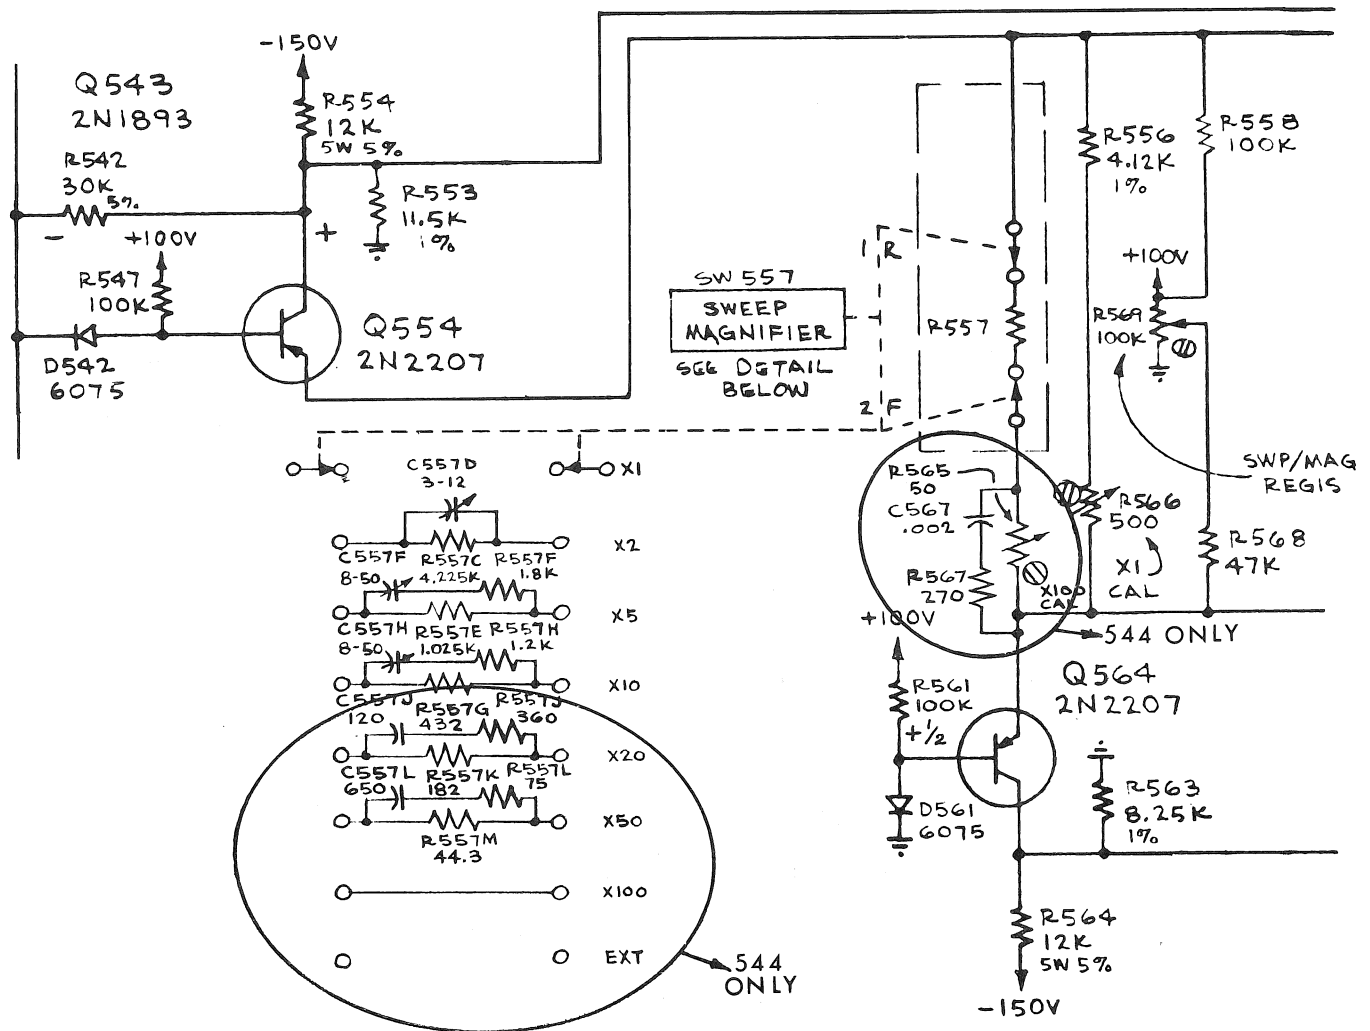

Figure 7-2
4. Third stage (Q554 and Q564) (Fig. 7-2)